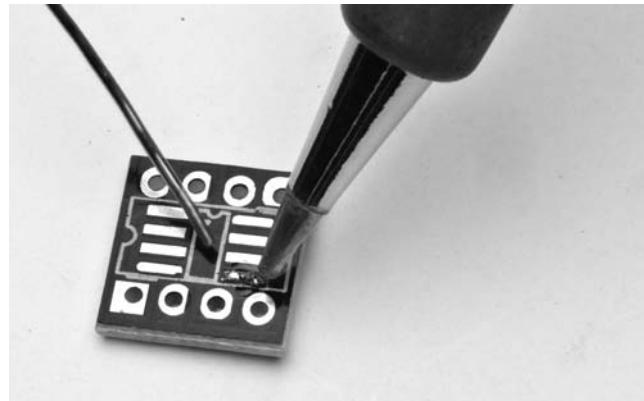

FIGURE 14-12 Apply solder to one corner pad.
1. Apply a small amount of solder to one of the corner pads on the carrier (Figure 14-12). If you have some liquid flux, feel free to use it as well, but it is not essential.